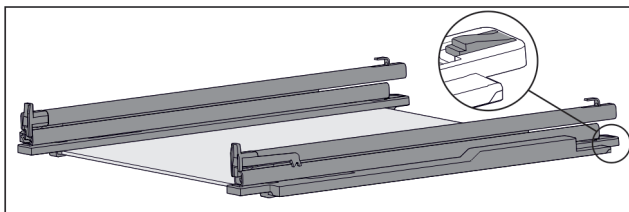

Fig. 126 Glass shelf with rails and retaining parts
- ▶ Press down retaining part at the rear (see *Fig. 126*) and at the same time push the rail back.